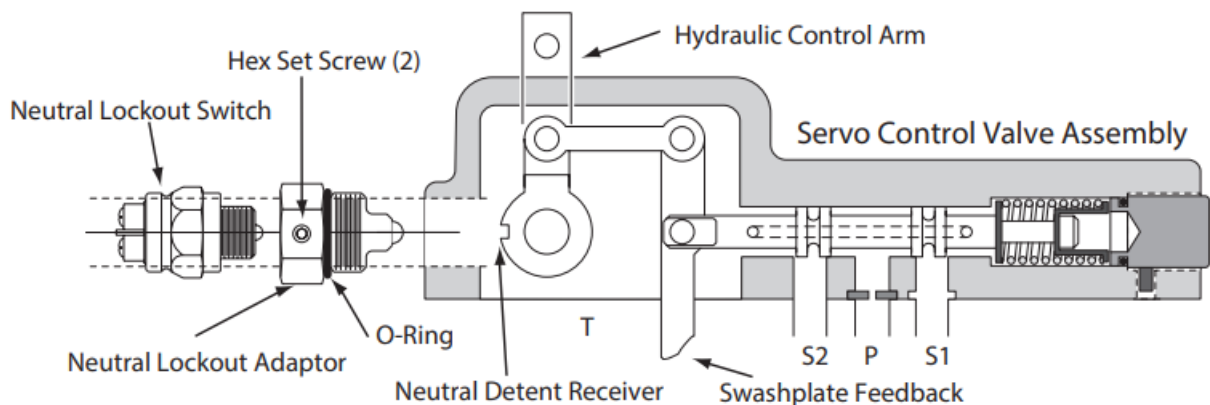

Figure 1-1
2. With the adaptor installed, proceed and install the neutral lockout switch into the adapter, again refer to figure 1-1.
1. With the switch removed from the adapter, install the adapter into the control assembly, refer to Figure 1-1.